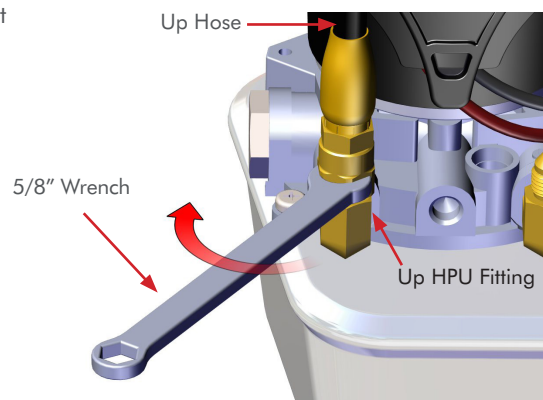

Figure 8
**STEP 10** Finger tighten the **UP Hose** to the **UP HPU Fitting Base**. **FIG 8**
**STEP 11** Turn the **UP Hose Fitting** clockwise a quarter turn with a **5/8" Wrench**. **FIG 8**